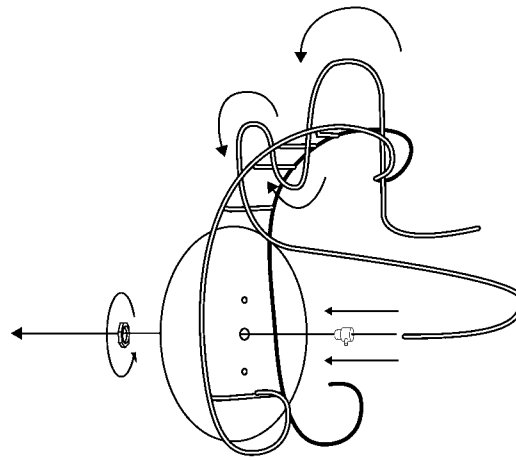

Figure 1
- (figure 1)** Starting with the end of the cord without the socket, weave the cord through rungs of the scroll arm.
- (figure 1 & 2)** When the desired hanging length of the cord is obtained, secure it with the cord grip assembly if you have the hardwire design. If you have the Pin Up design, let the cord hang down the wall.